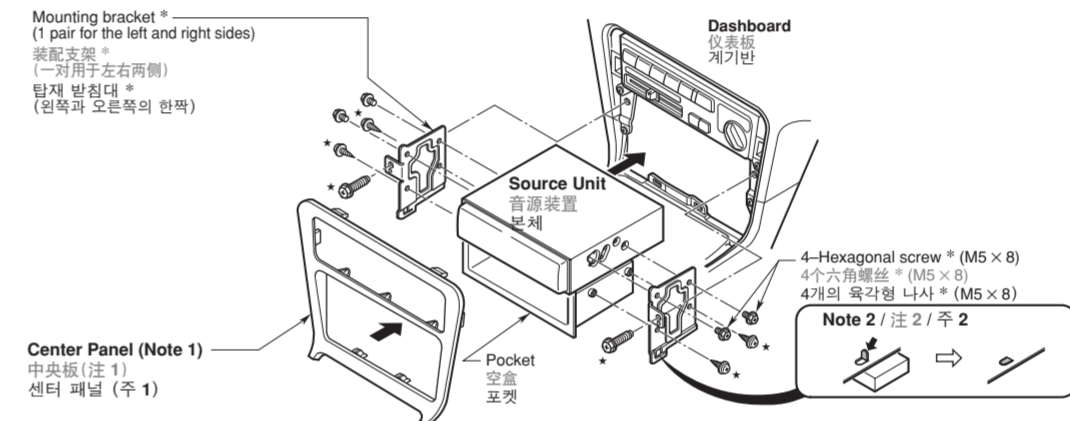

Figure 11 / 图 11 / 그림 11
This unit is designed for fixed installation in the dashboard. If the vehicle is equipped with a factory-installed radio, install the source unit with the parts and screws marked (*). (Figure 11)
- Secure the mounting brackets to the chassis as shown in Figure 11. When the source unit is installed without the universal mounting bracket, holes exist; modification, such as drilling new holes, of the mounting brackets may be required for other models.
本机用于固定安装在仪表盘上。如果汽车装备有出厂时安装好的收音机, 请用带星号(*)的零件和螺丝安装音源装置。(图11)
1. 如图11所示, 将装配支架固定在底盘上。在不使用通用装配支架的情况下安装本机时, 有现成的安装孔。其它车型可能需要改造装配支架, 如钻出新孔等。